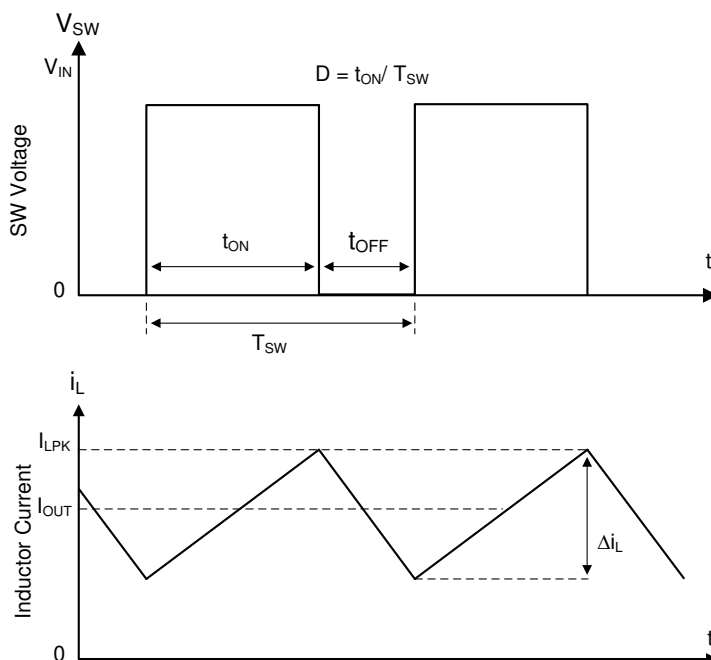

图 10. SW Node and Inductor Current Waveforms in Continuous Conduction Mode (CCM)
The following operation description of TPS560430-Q1 will refer to the Functional Block Diagram and to the waveforms in 图 10. TPS560430-Q1 is a step-down synchronous buck converter with integrated high-side (HS) and low-side (LS) switches (synchronous rectifier). The TPS560430-Q1 supplies a regulated output voltage by turning on the high-side and low side NMOS switches with controlled duty cycle. During high-side switch ON time, the SW pin voltage swings up to approximately V_{IN} , and the inductor current i_L increases with linear slope $(V_{IN} - V_{OUT}) / L$. When the high-side switch is turned off by the control logic, the low-side switch is turned on after an anti-shoot-through dead time. Inductor current discharges through the low-side switch with a slope of $-V_{OUT} / L$. The control parameter of a buck converter is defined as Duty Cycle $D = t_{ON} / T_{SW}$, where t_{ON} is the high-side switch ON time and T_{SW} is the switching period. The converter control loop maintains a constant output voltage by adjusting the duty cycle D . In an idea Buck converter, where losses are ignored, D is proportional to the output voltage and inversely proportional to the input voltage: $D = V_{OUT} / V_{IN}$.